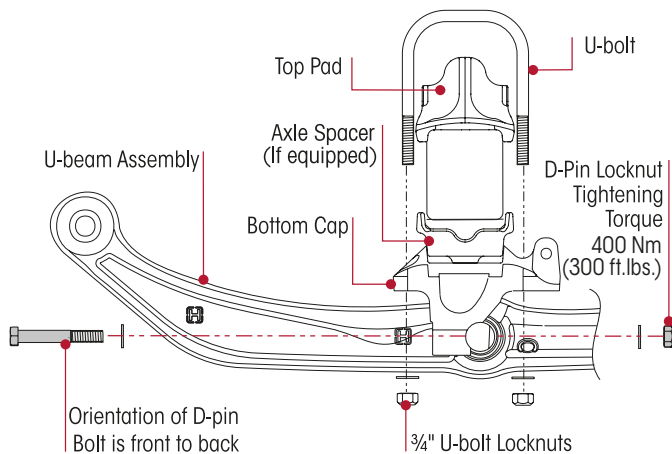

Figure 66: D-Pin Bolt Installation
8. Install the D-pin fasteners from front to back. Refer Figure 66.